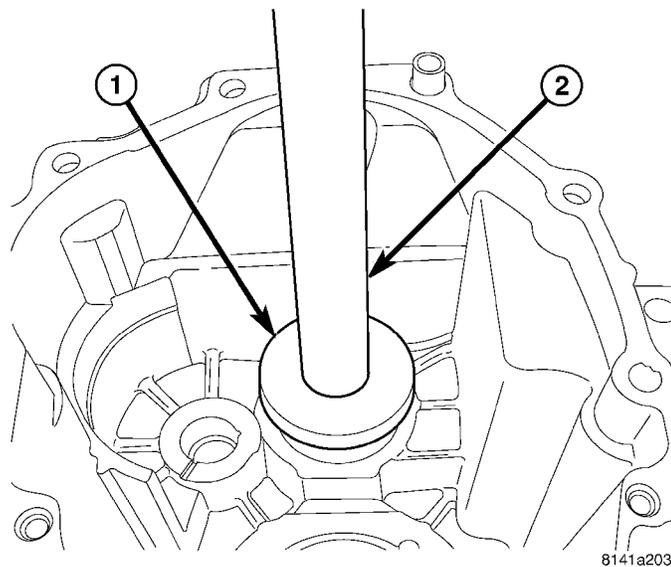

Fig. 83 REAR COUNTERSHAFT BEARING
(1) Install countershaft bearing (Fig. 83) into rear housing with Installer 9643 (1) and Handle C-4171.